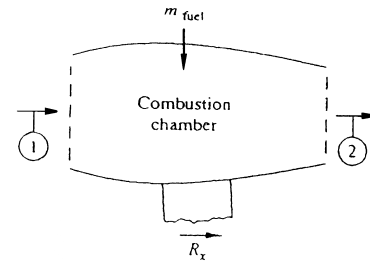

Fig. P3.55
P3.55 The jet engine in Fig. P3.55 admits air at 20°C and 1 atm at (1), where $A_1 = 0.5 \text{ m}^2$ and $V_1 = 250 \text{ m/s}$. The fuel-air ratio is 1:30. The air leaves section (2) at 1 atm, $V_2 = 900 \text{ m/s}$, and $A_2 = 0.4 \text{ m}^2$. Compute the test stand support reaction R_x needed.